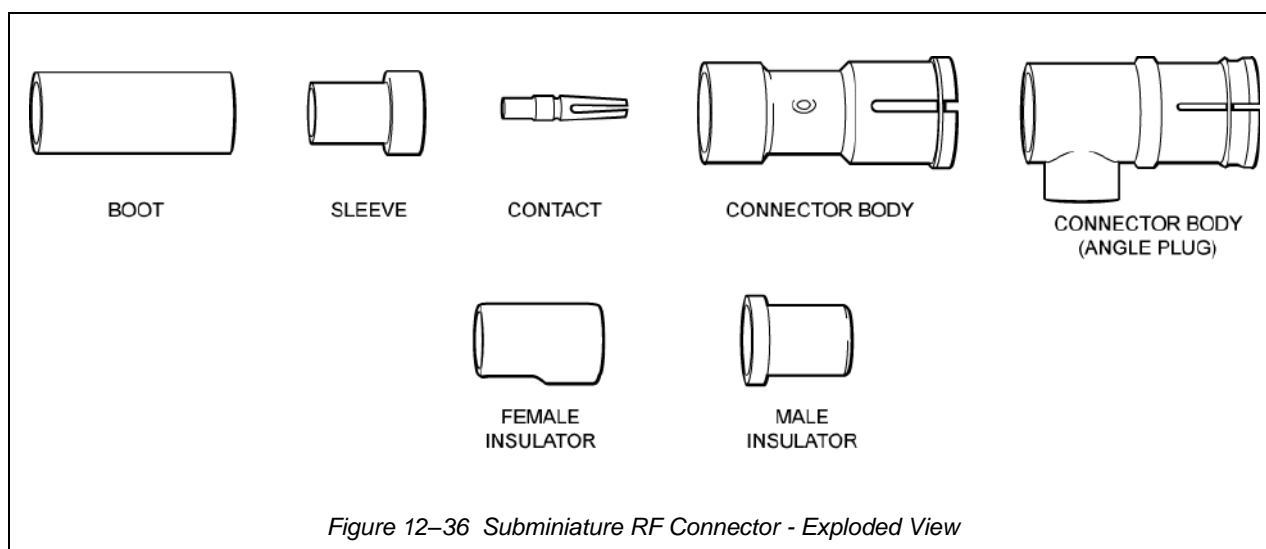

Figure 12-36 Subminiature RF Connector - Exploded View
29. These connectors are very small, lightweight connectors designed for use with RG-I74/U miniaturized coaxial cable, where peak voltage does not exceed 500 volts. Coupling is either of the screw thread type or the push-on type. The connectors consist of a plug or jack body assembled to coaxial cable with a sleeve and an insulator. (See Figure 12-36.) The assembly is crimped into the body, and a vinyl boot shrunk on for cable strain relief. Table 12-8 lists types of Amphenol #27 series connectors commonly used in aircraft.